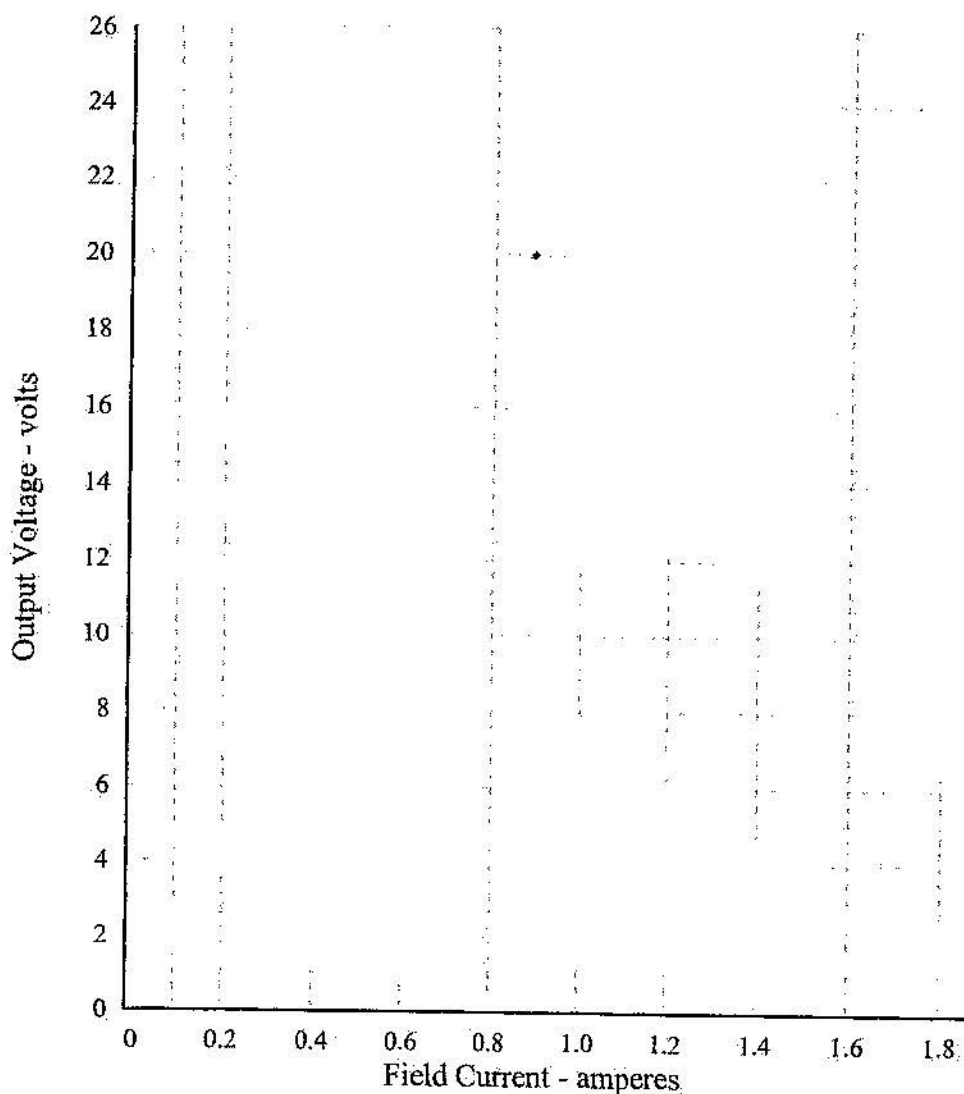

Figure 2
5. In the graph drawn in figure 2, what does the area between the two curves represent? What causes this loss?